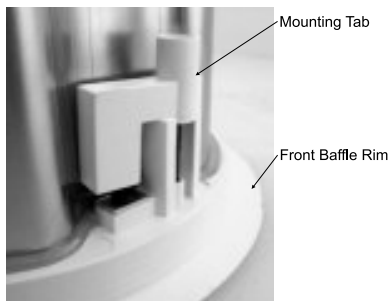

Figure 10: Tighten the Mounting Tabs
10. Tighten the mounting tabs by turning the screw clockwise (see Figure 10).